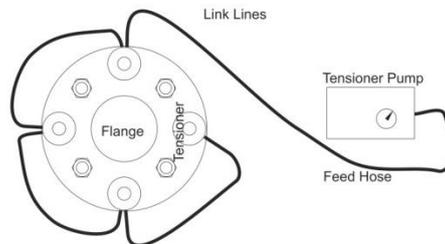

Figure 3 – Typical Hydraulic Hose Arrangement
- 5.2.10 Connect the hydraulic harness as shown in Figure 3.